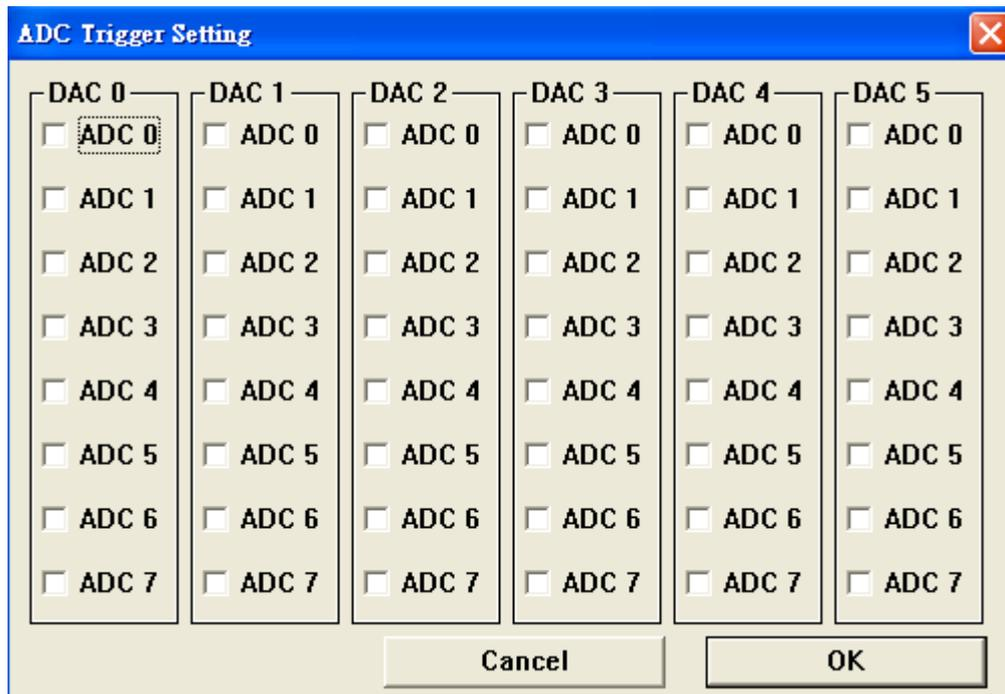

Figure 4-9.5
(4) Set ADC as DAC trigger source (as shown in Figure 4-9.5)